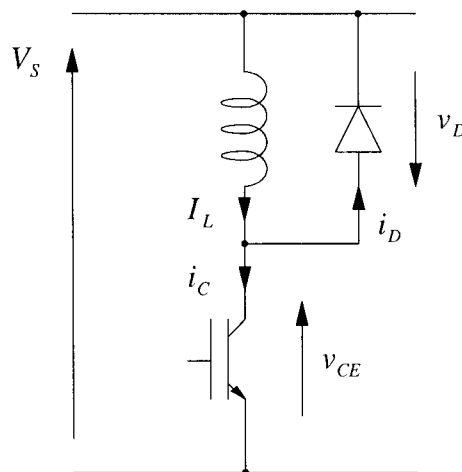

Figure 2.1 IGBT and inductive load
- (c) Figure 2.1 shows an IGBT used to switch an inductive load at a supply voltage of $V_S = 500$ V. A *pn* diode provides a current path for the load when the IGBT is switched off. The current in the inductor, I_L , can be considered constant at 100 A. At turn-on the IGBT achieves a rate of rise of current of 500 A/ μ s and its voltage fall time is 100 ns. The recovery current of the diode ceases abruptly when the junction recovers. For a forward current of 100 A, the diode recovery charge is 2.5 μ C.
- (d) Sketch a turn-on snubber suitable for use with the circuit in Figure 2.1. Explain how this snubber reduces the energy loss in the IGBT. [3]